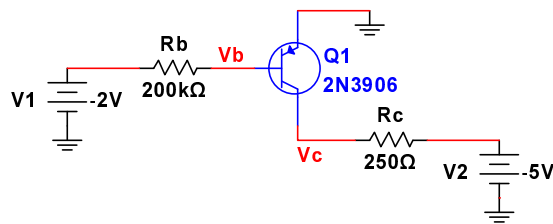
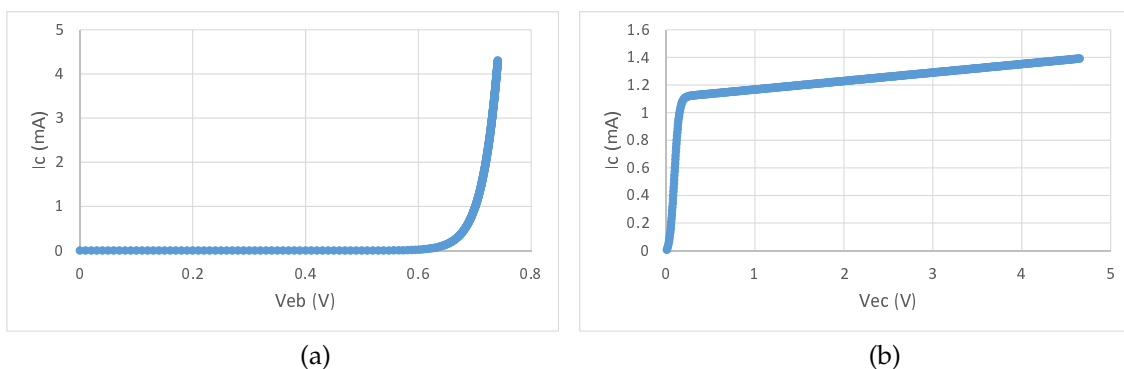

Figure 4: PNP BJT characterization circuit
Figure 5: Collector current (I_C) of a PNP BJT as a function of (a) V_{EB} (b) V_{EC}
Characterization circuit for a PNP BJT is shown in Fig. 4. Keeping V_2 constant and sweeping V_1 provides I_C as an exponential function of V_{EB} as shown in Fig. 5(a). Sweeping V_2 while V_1 is kept constant provides the I_C vs. V_{EC} characteristics as shown in 5(b).
2. Draw the schematics for the PNP characterization circuit in Fig. 4 using the 2N3906 transistor
2. Build the PNP characterization circuit in Fig. 4 using the 2N3906 transistor